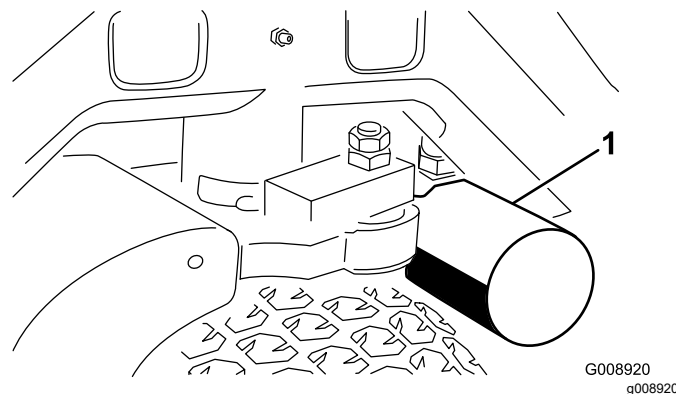
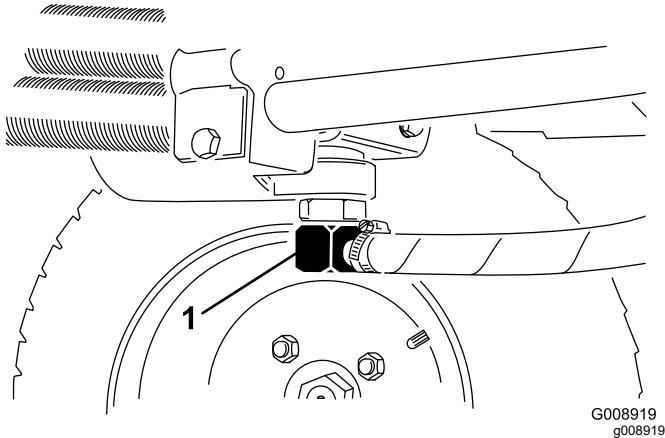

Figure 58
Figure 59
3. Clean around the filter mounting area. Place a drain pan under the filter (Figure 58) and remove the filter.
2. Disconnect the hydraulic line (Figure 59) or remove the hydraulic filter (Figure 58) and let the hydraulic fluid flow into a drain pan. Install the hydraulic line when hydraulic fluid stops draining.